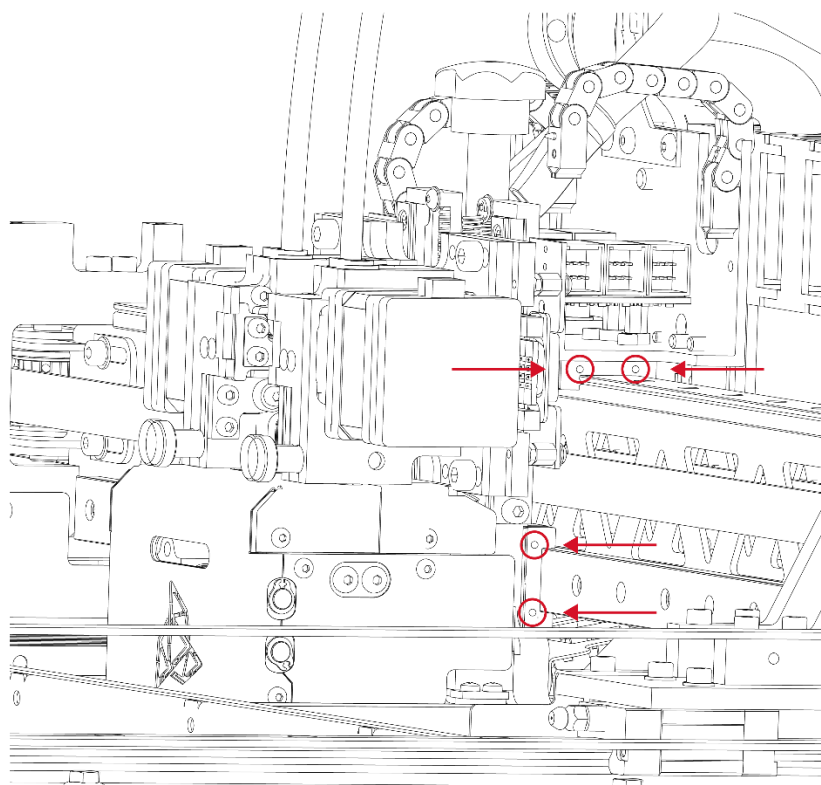

Fig. 80 Lubrication holes on the right side of the print module
11. Squeeze the dispenser for a few seconds to apply oil into the hole in the front carriage and the hole in the top carriage. The oil application points are marked red in Fig. 80.